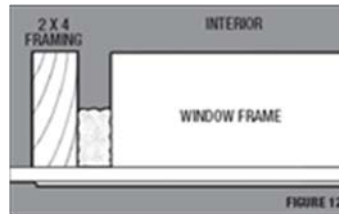

Figure 12
- 6.5.2 Apply foam to a depth of approximately 1/2 of the depth of the cavity between the window frame and the rough opening (Figure 12).